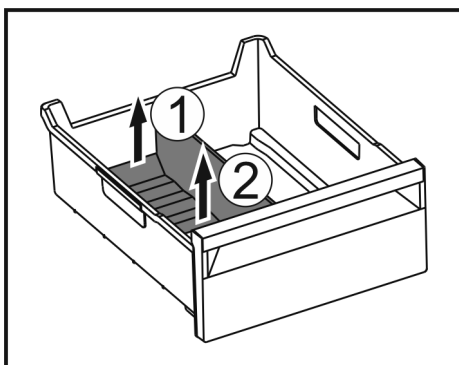

Fig. 139
- Lift the rear part of the ice compartment divider. *Fig. 139 (1)*
- Remove the ice compartment divider upwards. *Fig. 139 (2)*